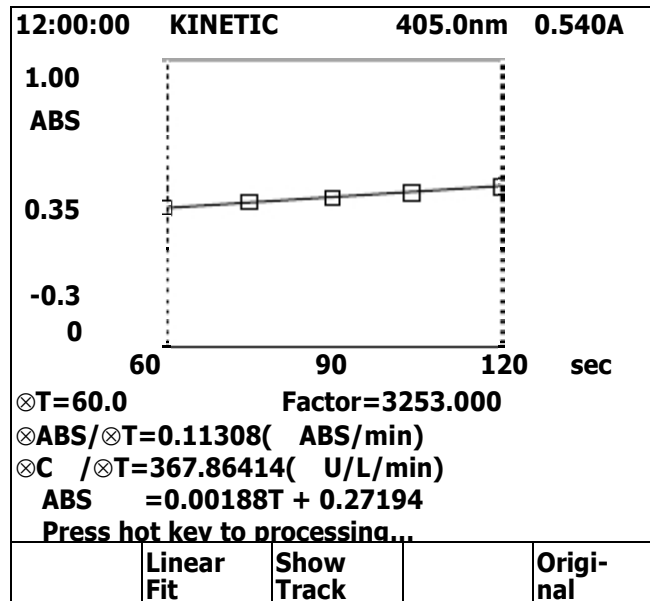

Figure 8.4 Kinetic Manipulate screen
Step 4. In this screen, press F2 Linear Fit to get the regression line and it will show on the screen (Figure 8.4). Here, only the regression line and the sampling blocks will show up. Users can also switch back to the original measuring curve by pressing F5 Original.